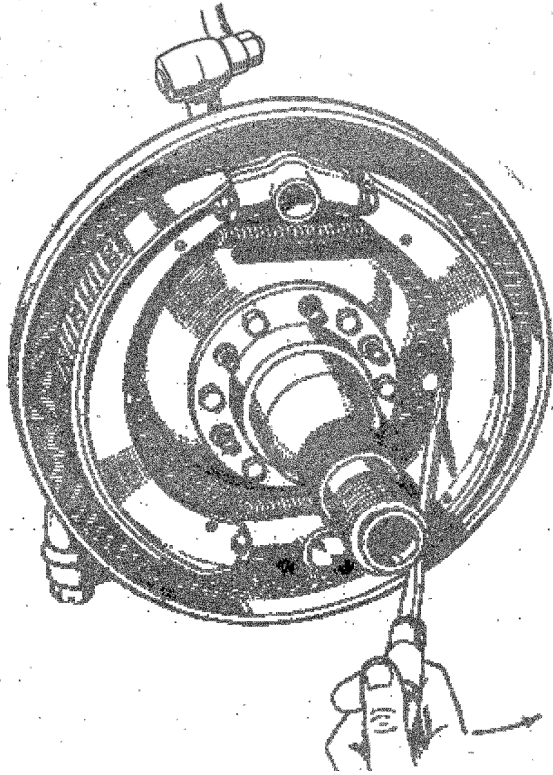

FIG. 25. THIS ILLUSTRATION SHOWS HOW EASY IT IS TO REMOVE A GIRLING BRAKE SHOE BY MEANS OF A LARGE SCREWDRIVER. (See text.)
3. To dismantle the Brake: All that is required is a large screwdriver. Two small studs will be found welded to the backplate. Rest the screwdriver against one of these studs and it will be found quite easy to prise one shoe out of the groove in the plunger at expander end (See Fig. 25). Both shoes and springs can now be removed, leaving expander and adjuster units in position on the backplate. Do not detach these units from backplate. Be careful not to over stretch the spring when removing shoes.